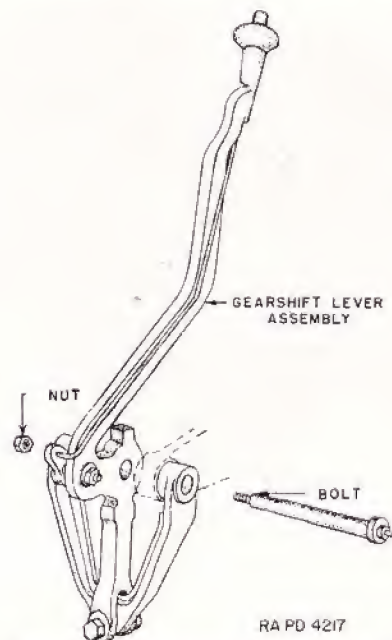

FIGURE 46.—Replacement of gear shift lever.
89. Replacement of gear shift lever (see fig. 46).—If the gear shift lever becomes broken or bent, it can be replaced as follows: